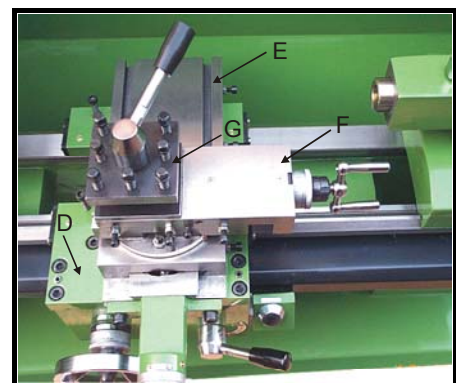

Fig. 14
4. **Carriage** – the carriage (D, Fig. 14) contains the control elements for the different feeds and supports the apron.
5. **Cross Slide** - the cross slide (E, Fig.14) is mounted on the carriage and moves on a dovetailed slide which can be adjusted for play by means of the gib.
6. **Top Slide** – the top slide (F, Fig.14) is mounted on the cross slide by T-screw which can be rotated 360 degree. The top slide moves on a dovetailed slide and has an adjusted gib, locking screw.
7. **Tool Post** – the tool post (G, Fig. 14) is located on a central pivot mounted on the top slide. It has four position 'click' locator that locates it to its major axis. It can be held at any angle by the tool post locking clamp.